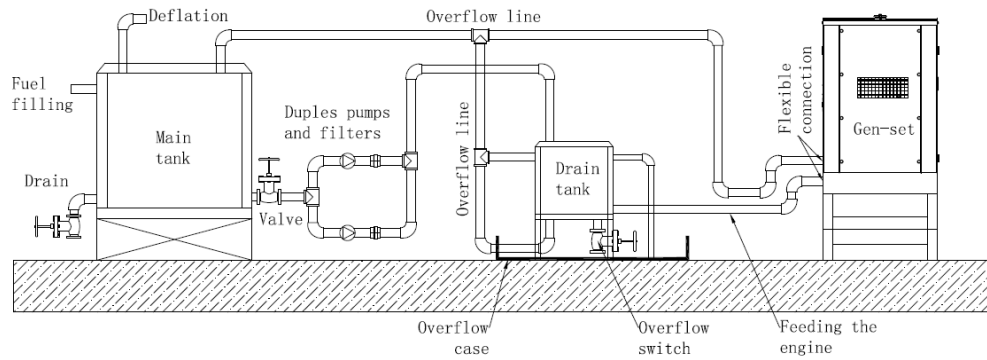

Figure 5.2 With Intermediate Fuel Tank.
5.6. With Intermediate Fuel Tank (Fig.5.2)
1. An automatic duplex fuel transfer pump and primary filter system arranged to start the standby pump should the duty pump fail. The transfer pump(s) must be sized to cater for the total fuel required by the engine, i.e. fuel consumed and the spill return volumes (Fig.5.2.)
The connection details for these additional items of equipment are indicated. See Fig. 5.2.